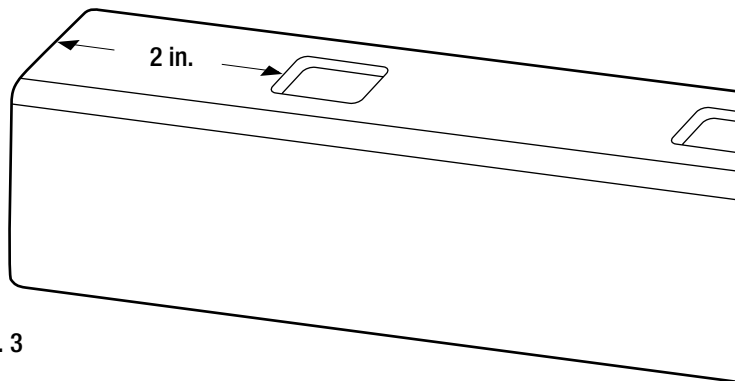

Fig. 3
- For line applications, subtract  $\frac{3}{8}$  in. from the measurement on each end to allow for rail brackets and flanges. For stair applications, subtract  $\frac{1}{8}$  in. from the measurement on each end to allow for stair brackets. Transfer the measurement to the top rail, making sure that the distance from the end of the rail to the first baluster slot is equal on both ends of the rail. The minimum distance from a post to first baluster slot is 2 in. for clearance from the brackets (See Fig. 3).